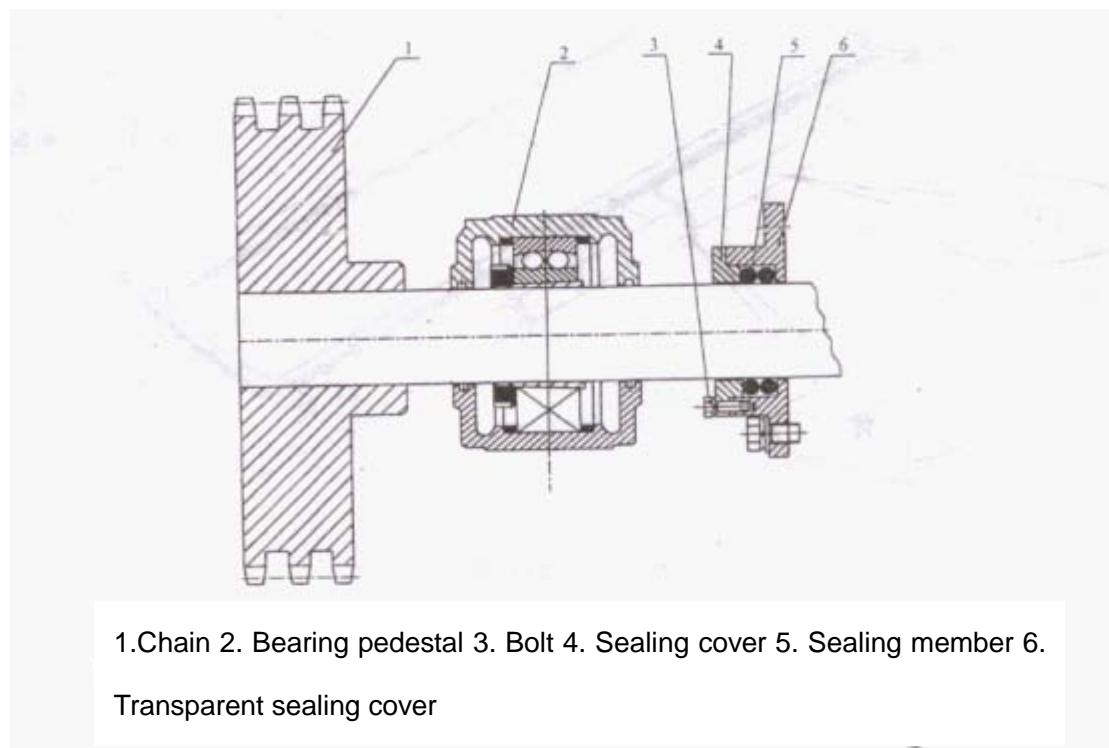

Fig. 10
- 10.1.5 If material leakage at shaft ends during operation is caused by the loose bolts on the sealing cover, it is necessary to screw them up tightly; if it is caused by aged sealing members, it is necessary to replace them timely. If there is not enough space for replacing the sealing members, the sprocket and bearing pedestal should be disassembled firstly, then the sealing gland, finally the sealing members should be replaced (see Fig. 10). For types of sealing members, see Table 5.